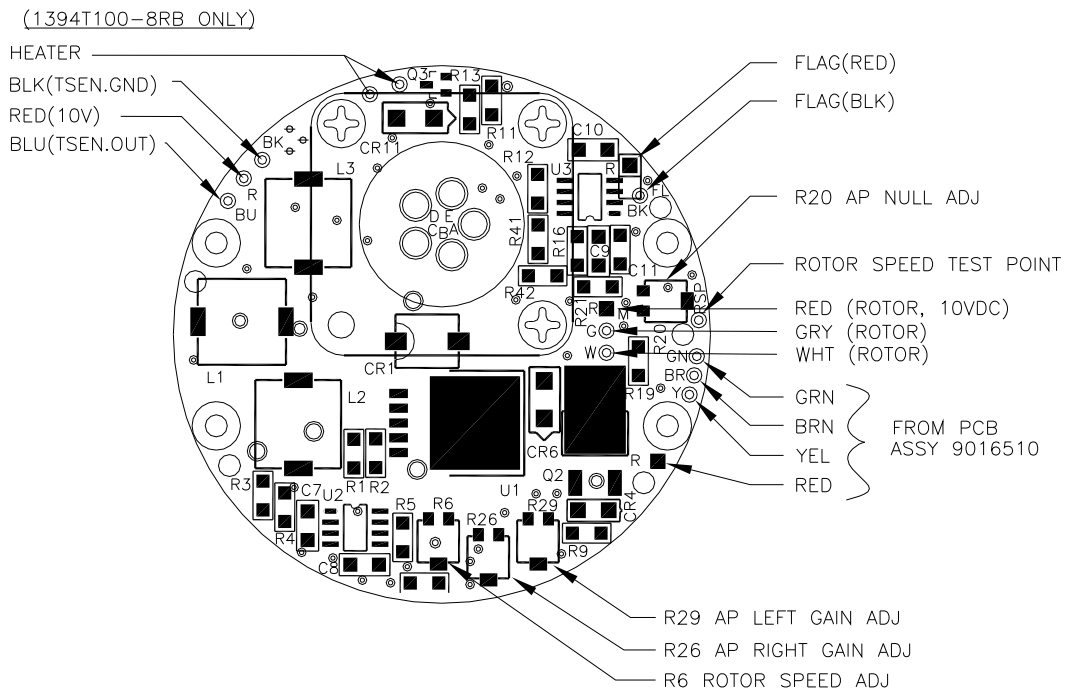
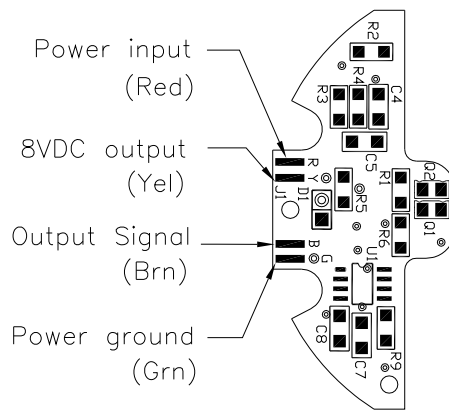

Figure 1 9016499-() Main PCB Assembly
Figure 2 9016510 PCB Assembly
- E. Reattach the three wires from the Rotor PCB Assy. by looping the wires through the hole in the PCB Main and soldering them to the backside of the board in the locations shown in figure 1.
- F. Solder four wires (red, yellow, brown, and green) to the 9016510 PCB Assy. in the locations shown in figure 2. Solder the other end of these wires to the 9016499-() PCB Main Assy. in the locations shown in figure 1.
- H. Solder the red and black flag wires to the Main PCB at the locations shown in figure 1. Attach these wires to one of the lower standoff using cable ties.
- I. **\*\*\*For 1394T100-8RB Only:** Solder the red and black flag wires and the two orange heater wires to the Main PCB Assy. at the locations shown in figure 1. Attach these wires to one of the lower standoffs using cable ties. Solder the black, blue, and red wires from the heater regulator to the Main PCB Assy. at the locations shown in figure 1. Attach these wires to the other lower standoff using cable ties.